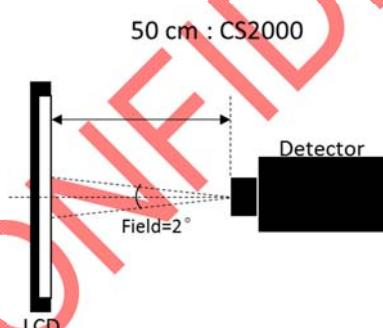

Fig 4.1 Measurement equipment.
- (1) Each chromaticity coordinates (x, y) are measured in CIE1931 color space when full-screen displaying (Red, Green, Blue, White) and light source is defined by HKC Backlight, measurements shall be made at the center of the panel, and setup of measurement is shown in Fig 4.1.
- (2) The color gamut is defined as the fraction in percent of the area of the triangle bounded by R, G, B coordinates and the area is defined by NTSC 1931 color standard in the CIE color space. Chromaticity coordinates are measured by CS2000 and the standard setup of measurement is shown in Fig 4.1.
- (3) Definition of Transmittance (T%):
(6) Definition of Viewing angle:
As Note (4) the static contrast ratio definition, the viewing angles are defined at the angle that the contrast ratio is larger than 10 at four directions relative to the perpendicular direction of the HKC's module (two vertical angles: up  $\theta_y+$  and down  $\theta_y-$ ; and two horizontal angles: right  $\theta_x+$  and left  $\theta_x-$ ). The standard setup of measurement is shown in Fig 4.1 & 4.4